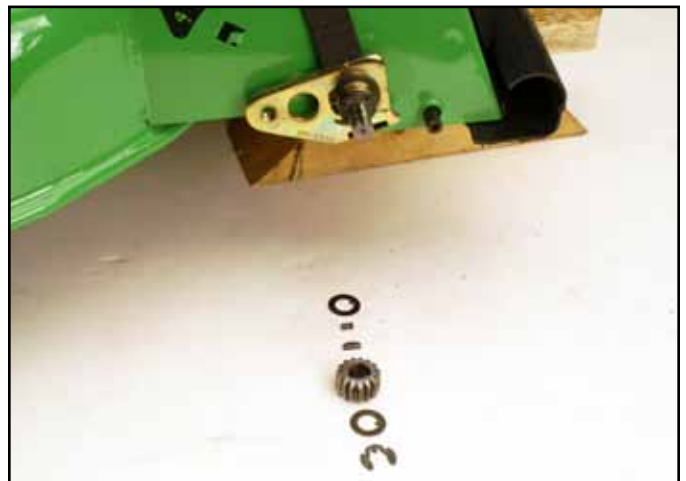

Fig 097
10. Remove clip ring, thrust washer, pinion, key spring and thrust washer (Fig. 097).